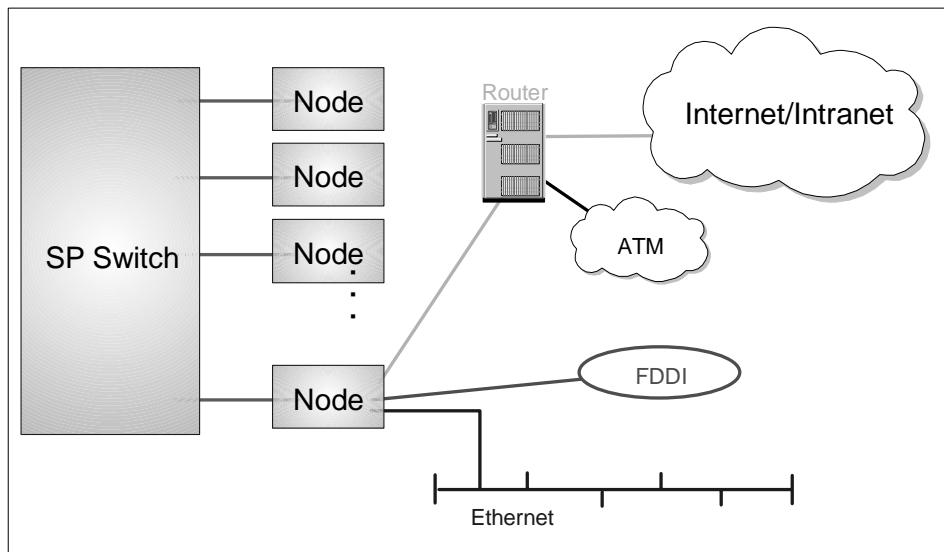

Figure 5. Routing without GRF
2. By designating one or two nodes to act as a router (as shown in Figure 5).